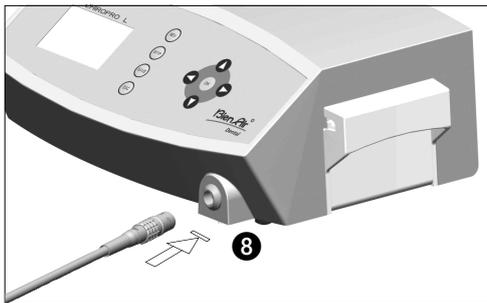

fig. 3
E. Connect the MX-LED CHIROPRO micromotor cable to the motor output, guiding the connector and plug by means of the index pin and red dot on the connector **fig. 3**.